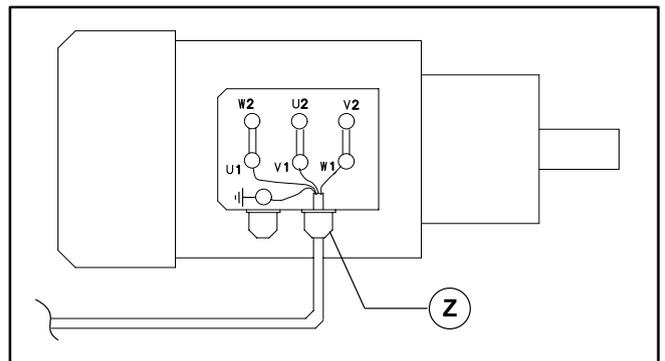

Figure 17
- Record wire colors on terminals U1, V1, W1 and ground (\perp) (Figure 17). Loosen terminals U1, V1, W1 and ground and remove wires.
- Loosen cord grip (Z of Figure 17) and remove cord.